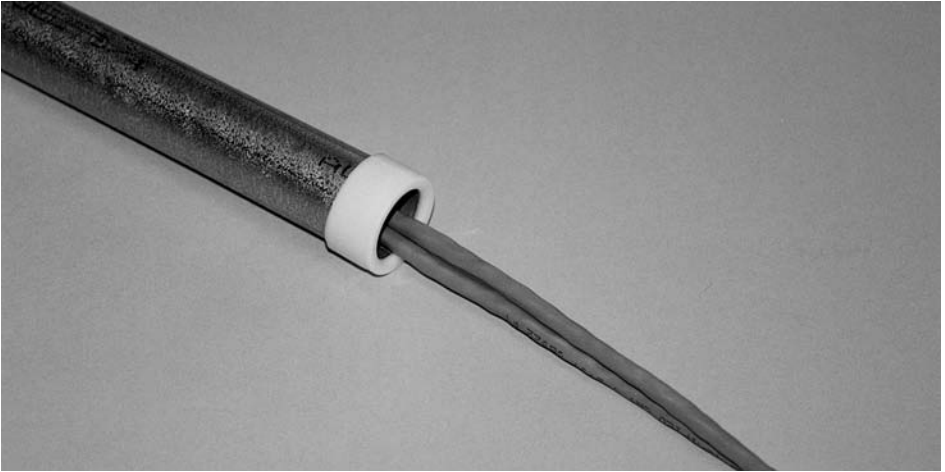

Figure 7-11. Plastic guards protect cable in conduit.
1. Open the conduit on each end. Examine the ends for roughness, and use a special “leaderguard” (Figure 7-11) if necessary to prevent cable damage.